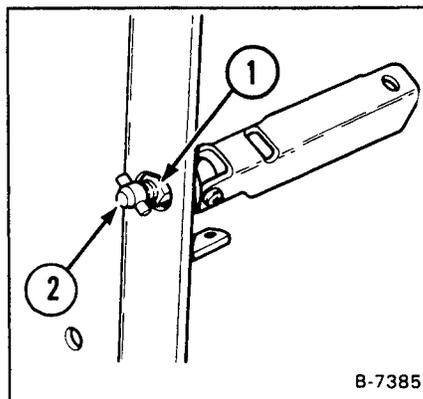
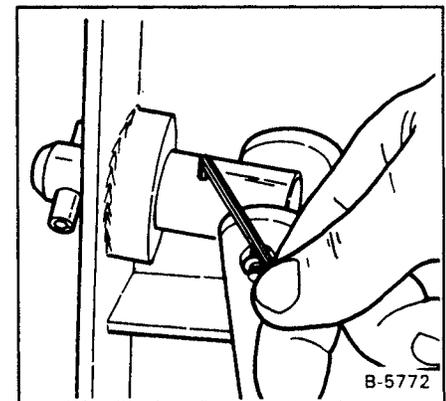
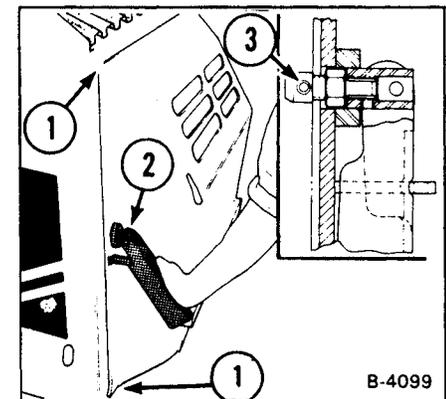

Fig. 1-5 Door Latch
Fig. 1-4 Set Screw
Fig. 1-6 Rear Door
(1) Loosen the set screw (Fig. 1-4). Loosen the nut (Fig. 1-5, Item 1).
(2) Turn the bolt (Fig. 1-5, Item 2) in or out until the door contacts both the top and the bottom of the loader frame with the lever in the latched position (Fig. 1-6, Item 1).
(3) Lubricate the wear surface of the latch (Fig. 1-6, Item 2).
**NOTE:** With the set screw up, the flanges on the bolt (Fig. 1-6, Item 3) must be to the side so that the set screw aligns with the flat surface at the end of the bolt.
(4) Tighten the set screw (Fig. 1-4). Tighten the nut (Fig. 1-5, Item 1) to 65 - 70 ft.-lbs. (88 - 95 Nm) torque.